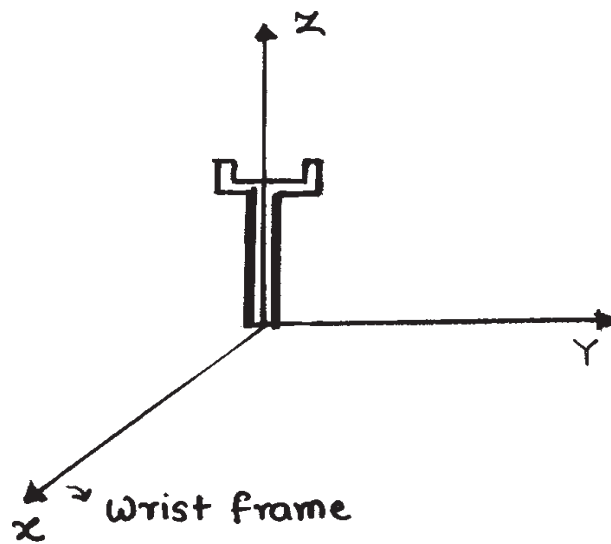

FIG 7b
b) For the robotic tool shown in Figure 7b, suppose we yaw the tool by  $\pi$  radians about x axis, then pitch the tool by  $-\pi/2$  radians about new y axis and finally roll the tool by  $\pi/2$  radians about new z axis. [8]